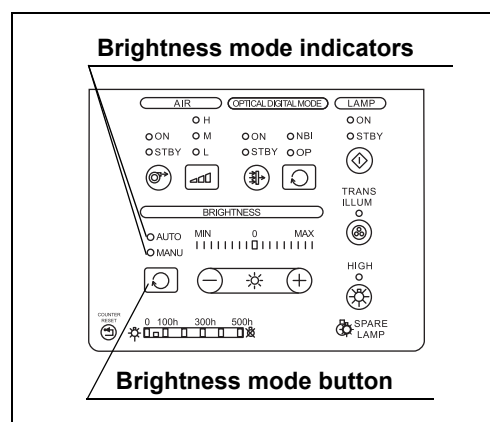

Figure 4.19
- 11** Press the brightness mode button and confirm that the "AUTO" indicator lights up. (See Figure 4.19)